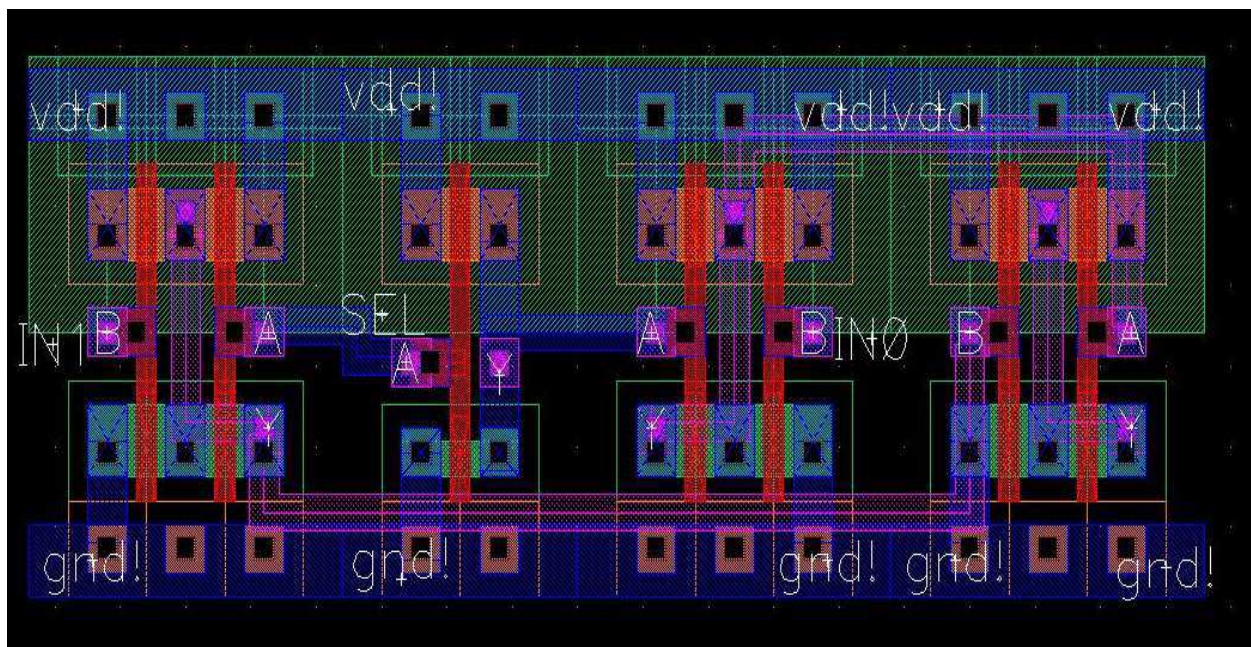

Figure 7: Final layout of the multiplexer.
6. After finishing the connections, the next step is to define the pins. Create pins (shortcut: 'ctrl-p') for the inputs A, B and SEL and the output Y. Lastly, don't forget to create the vdd! and gnd! pins the same way you did for the basic gates. Be careful to define the I/O types of each properly and make sure to create the pins in the appropriate metal layer (metal1-dg for vdd! and gnd!, and metal2-dg for everything else). An example of the final layout can be seen in Figure 7.